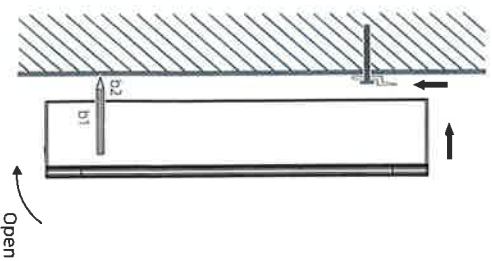

Fig. 3
- ① Attach the mirror cabinet to the bar as shown in Fig. 3, open the cabinet door, and mark on the wall (b2) with a pencil through the backplane hole (b1).
- ③ Repeat the operation as shown in Fig. 3 and mount the mirror cabinet to the bar, and then tighten the screws on the backplane (Fig. 5).
- ④ Finally, turn on the main switch, and test if the switch works normally.